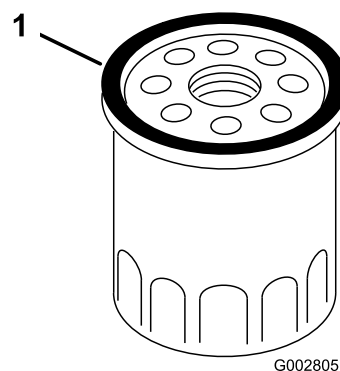

Figure 29
7. Use your finger to coat the gasket on the new filter with oil (Figure 29).